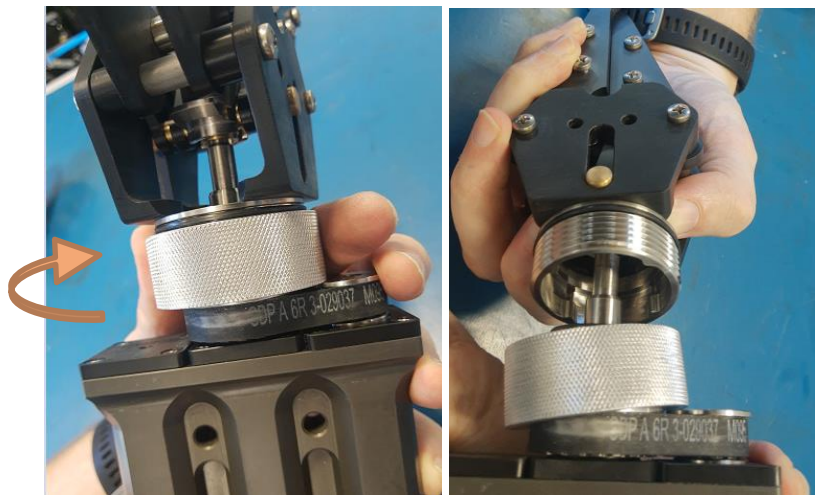

FIGURE 4: TAKING TRIDENT OFF THE MANIPULATOR DRIVE UNIT
5. When installing the replacement attachment, make sure the dog clutch between the drive unit and attachment is aligned (keyed in) before tightening the nut. **DO NOT Lubricate the O-ring.** The friction of the O-ring and mating parts prevents the Jaws from loosening during the rotate operation. See Figure 4 below.